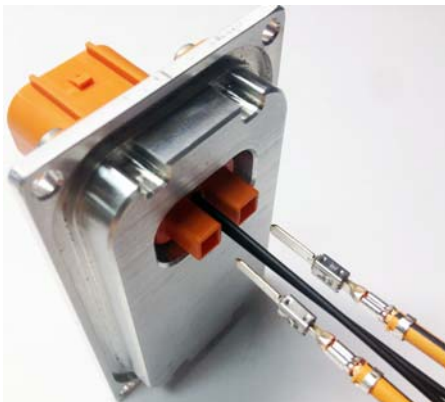

Figure 10
3. Insert each contact into the appropriate contact cavity of the inner housing, taking note of the cavity identification numbers marked on the wire end of the inner housing. See Figure 10. Gently pull back on each wire to ensure that the contacts are fully seated. See Figure 10.